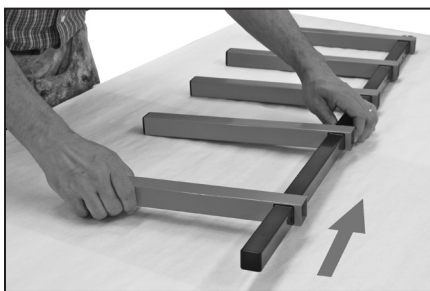

Figure 2
2. Insert a screw into the next hole up, then slide another orange bar into position. Continue this process until all the bars are fitted, being careful that all the notches face down. Repeat this process for the other side. Figure 2.